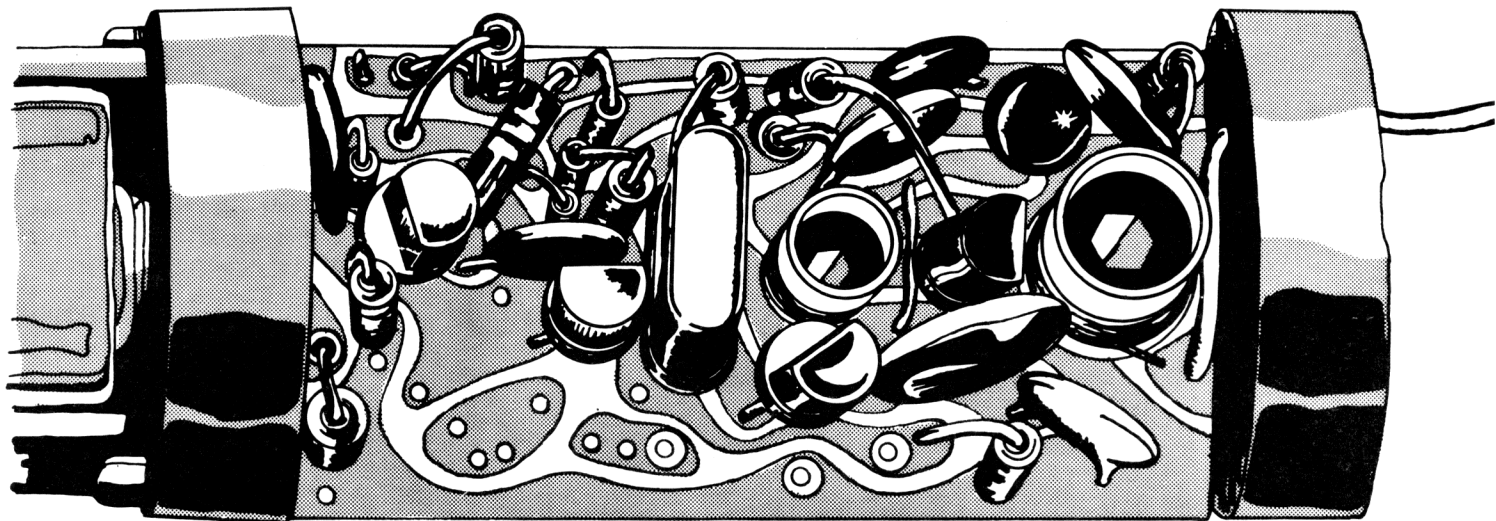

FIG. 2 TOP VIEW, TRANSROC (RKT-F MODE)
- (b) If a two-lead component such as a resistor or diode is to be installed in an upright position, the upper lead must be bent nearly 180 degrees to allow insertion of both leads into the printed circuit (PC) board. The bend should be near the top of the component. (See D1 in the upper left corner of Figure 2.)
34. () Inspect the top of the PC board thoroughly, comparing it with Figure 2. All the transistors and components should be located and oriented as shown in the illustration.